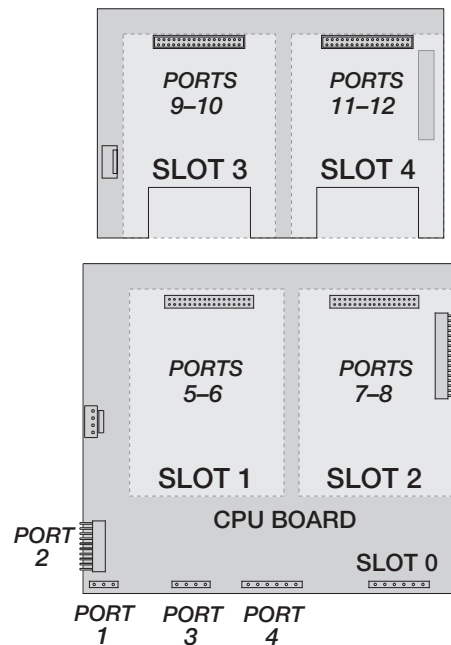

Figure 3-14. Serial Port Assignments, Two-Card Expansion Board
*Example: In a system with a two-card expansion board, port assignments are reserved as illustrated in Figure 3-14. If the only serial card installed in this system is in SLOT 4 of the expansion board, the system consists of serial ports 1-4 (on the CPU board) and ports 11-12.*